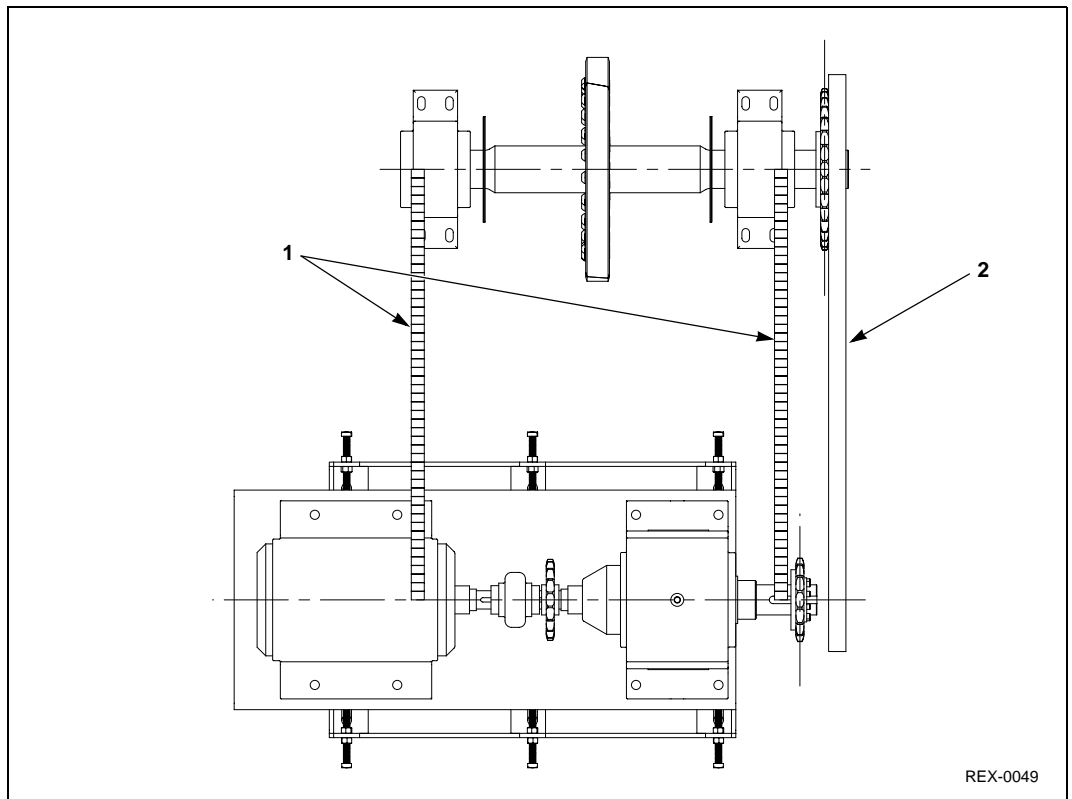

Figure 4-50:
- a. Measuring the distance between the shafts in three places (at each end and somewhere in the middle) adjusting one or both shafts until all three areas measured are equal distance apart. See Figure 4-50.
- b. Placing a straight edge (or wire for long center distances) against the finished surface of a sprocket or sheave and adjusting shafts so that there is an equal gap (or no gap) across sprocket or sheave and straight edge or wire. Note: axial alignment in Step 2 must be checked and/or corrected before using this procedure. Take care to hold straight edge against finished surface on side of sprocket. See Figure 4-50.